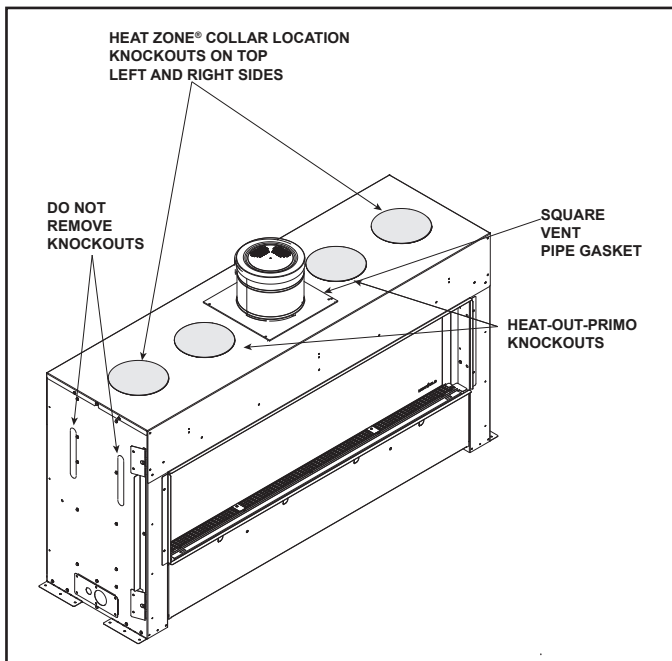

Figure 3. HEAT-ZONE-PRIMO
- Remove the HEAT-ZONE-PRIMO knockouts on the top left and right sides of the appliance as shown in Figure 3.
- Install the HEAT-ZONE-PRIMO collars on the left and right sides of the appliance with screws. See Figure 3.